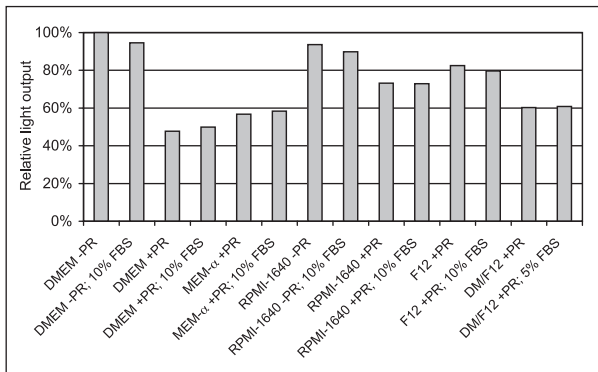
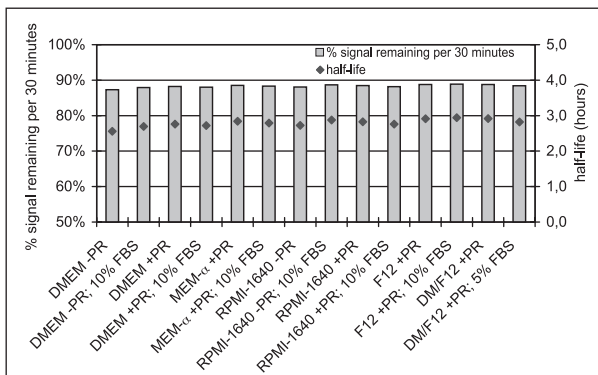

Figure 5. Relative light output in different media
Figure 6. Signal stability in different media expressed as a percentage of signal remaining per 30 minutes and half-life (hours)
To assess the influence of different culture media on luminescence light output, the following experiment was performed using commercially available basal media in the presence and absence of Fetal Bovine Serum (FBS) and Phenol Red (PR). 100 μ L neolite was added to 100 μ L samples of the different media in a white 96-well CulturPlate™ (Revvity), where each sample contained firefly luciferase at a concentration of 10⁻⁸ gram per mL. After shaking the plate, the light output was measured using an EnVision in Enhanced Luminescence Mode. Figure 5 illustrates the results of the relative luminescence after 5 minutes count delay. Figure 6 shows the results of the stability of the signal as a function of the culture media tested.
The results as shown in Figure 5 indicate that FBS has a minor effect on the light output. However, the presence of Phenol Red in the basal medium has a larger impact. The reduction in light output reflects the Phenol Red concentration in the media. The stability of the luminescent signal is only slightly dependent on the tested media as shown in Figure 6.
- Phenol Red, as well as other colored compounds, will chemically not interfere with the luciferin/luciferase reaction, but will quench some of the emitted light, resulting in lower assay signals (see Figure 5). For optimal light output, the culture medium can be substituted with (Dulbecco's) PBS prior to the addition of neolite.